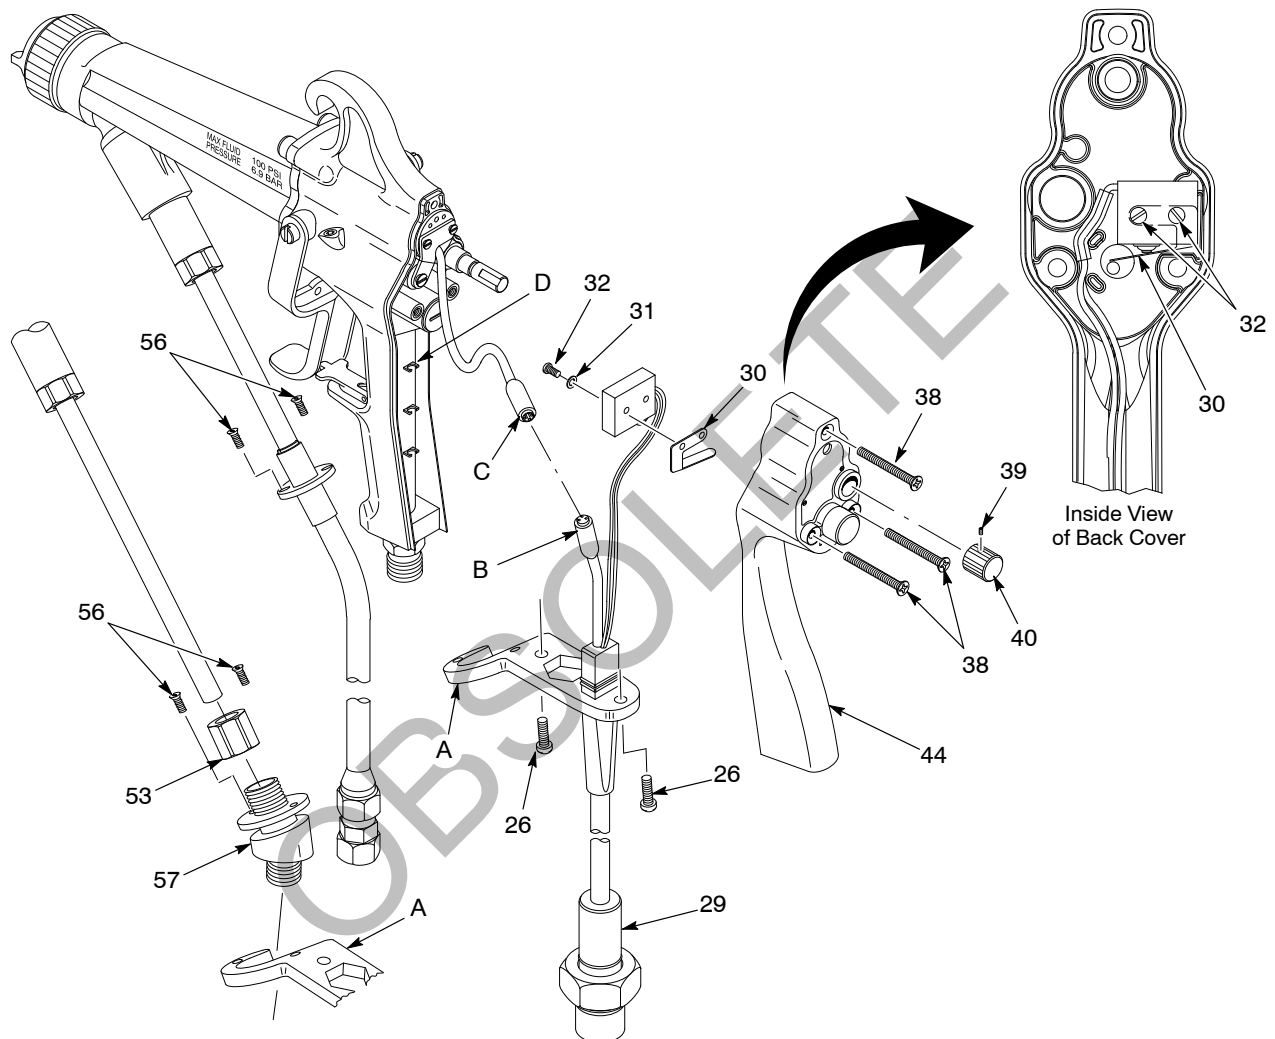

Figure 7-10 Gun Cable Replacement
See Figure 7-10.
1. Secure the actuator switch (30) and gun cable (29) to the back cover with its screws (32) and washers (31).
**NOTE:** The actuator switch should be placed as shown in Figure 7-10. The wires should be to the left of the switch and the metal clip should be placed behind the switch so that its arm extends along the bottom of the switch from the right.
2. Connect the cable connector (B) to the multiplier connector (C).
**NOTE:** Make sure the cable is snapped into the ribbed slots (D) in the back of the handle.
3. Secure the cable bracket to the handle and back cover using the two screws (26). Tighten the screws to 1.36–1.69 N•m (12–15 in.-lb).
4. Install the back cover (44) with the screws (38). Tighten the screws to 0.9–1.13 N•m (8–10 in.-lb).
6. Install the horn air adjust valve knob (40) on the back cover and tighten the set screw (39). Align the set screw with the flat on the knob.